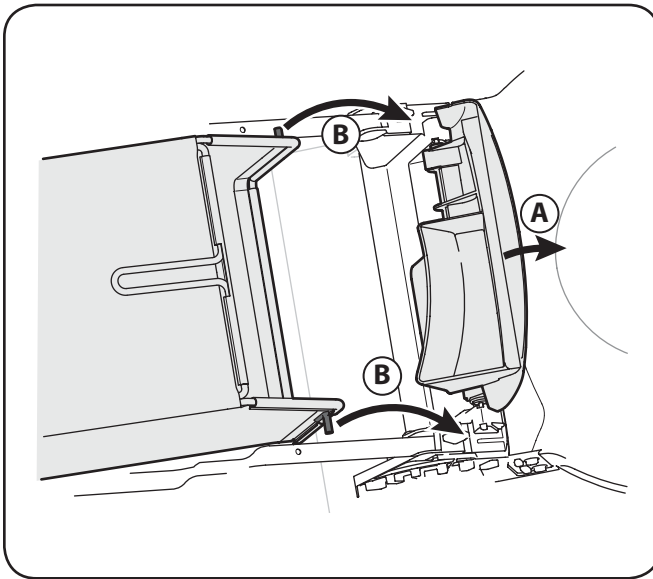

Figure 3-7
- b. Place grass catcher into the slots in the handle brackets as shown in Fig. 3-7. Let go of discharge door so that it rests on the grass catcher.